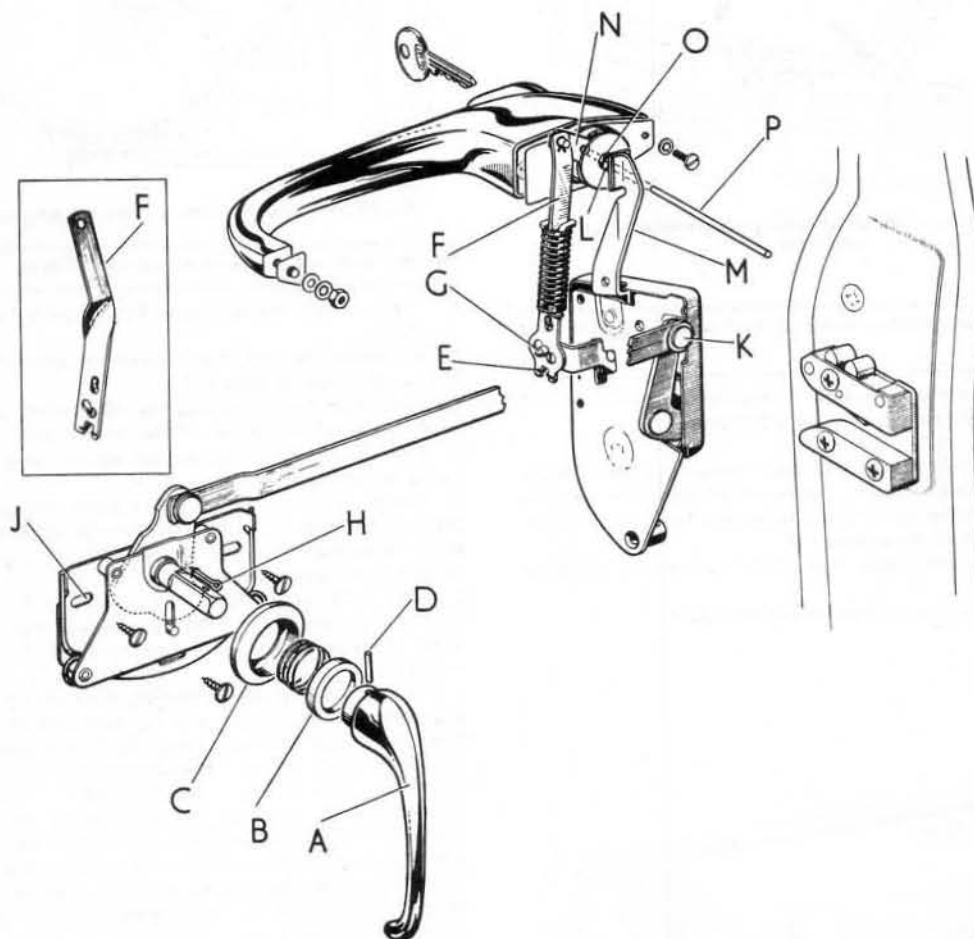

Fig.12.15. The Mk 1 door lock mechanism
- 1 The door lock mechanism as fitted to Mk 1 cars is shown at Fig.12.15.
- 7 When refitting the lock, first of all secure it loosely to the door and it should be noted that on rear door locks a shorter screw is fitted in the front elongated hole (J) of the remote control unit.
- 8 Tighten the four screws holding the lock unit first and then align the remote control unit by sliding it as far as possible towards the lock unit and in this position the operating lever (K) will be in contact with the lock case as shown in the drawing. Tighten down on the three securing screws.
- 9 The plunger housings on the outside door handles are stamped "N.S" (near side) and "O.S" (off side) and the appropriate handle, with its two seating washers, should be held in position on the door panel and the clearance between the plunger (L) and the lock contactor (M) checked through the aperture in the inner door panel.
- 10 The clearance should be $1/32$ " (0.8 mm) but before making any adjustment, turn the plunger operating lever (N) to the unlocked position and depress the push button.
- 11 With the push button depressed, release the locknut (O) and screw the plunger bolt (L) in or out as required and retighten the locknut before releasing the push button.